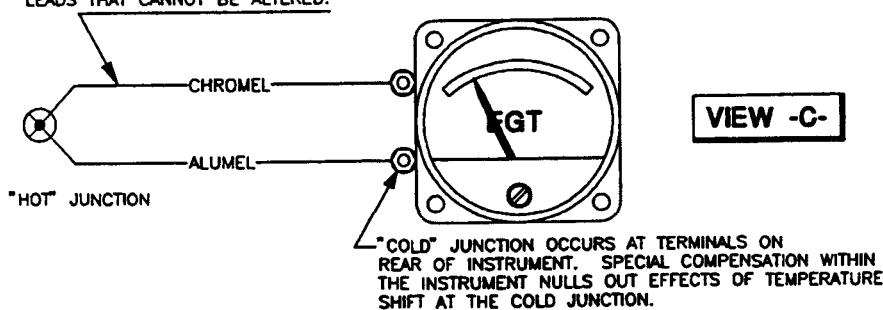
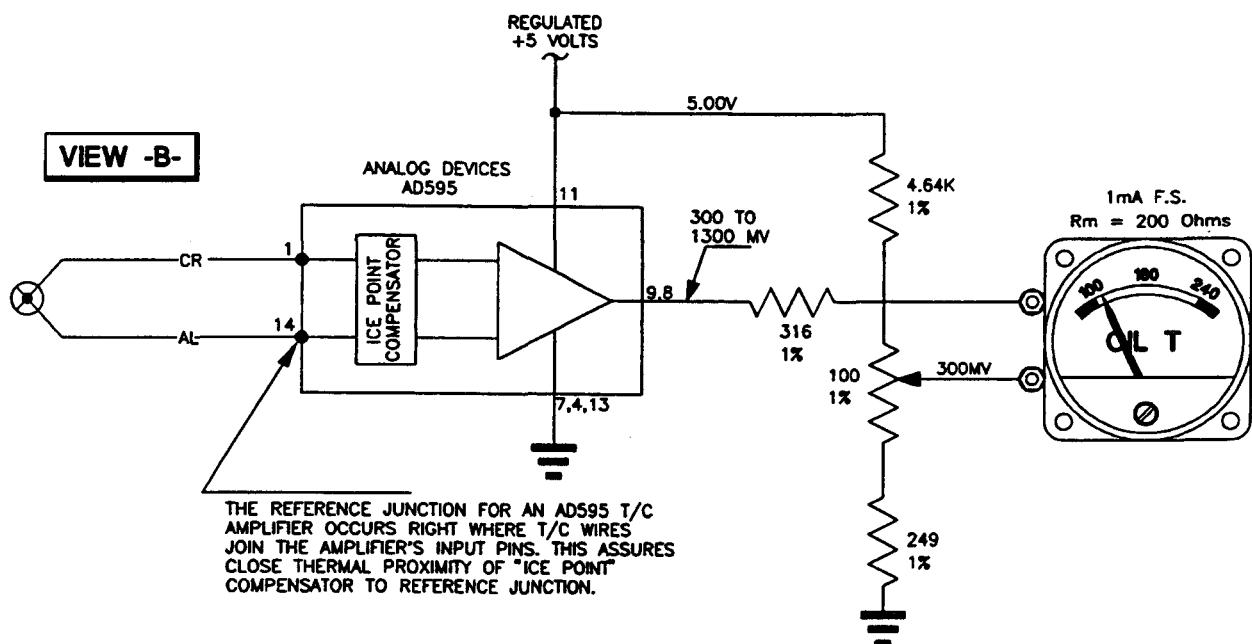
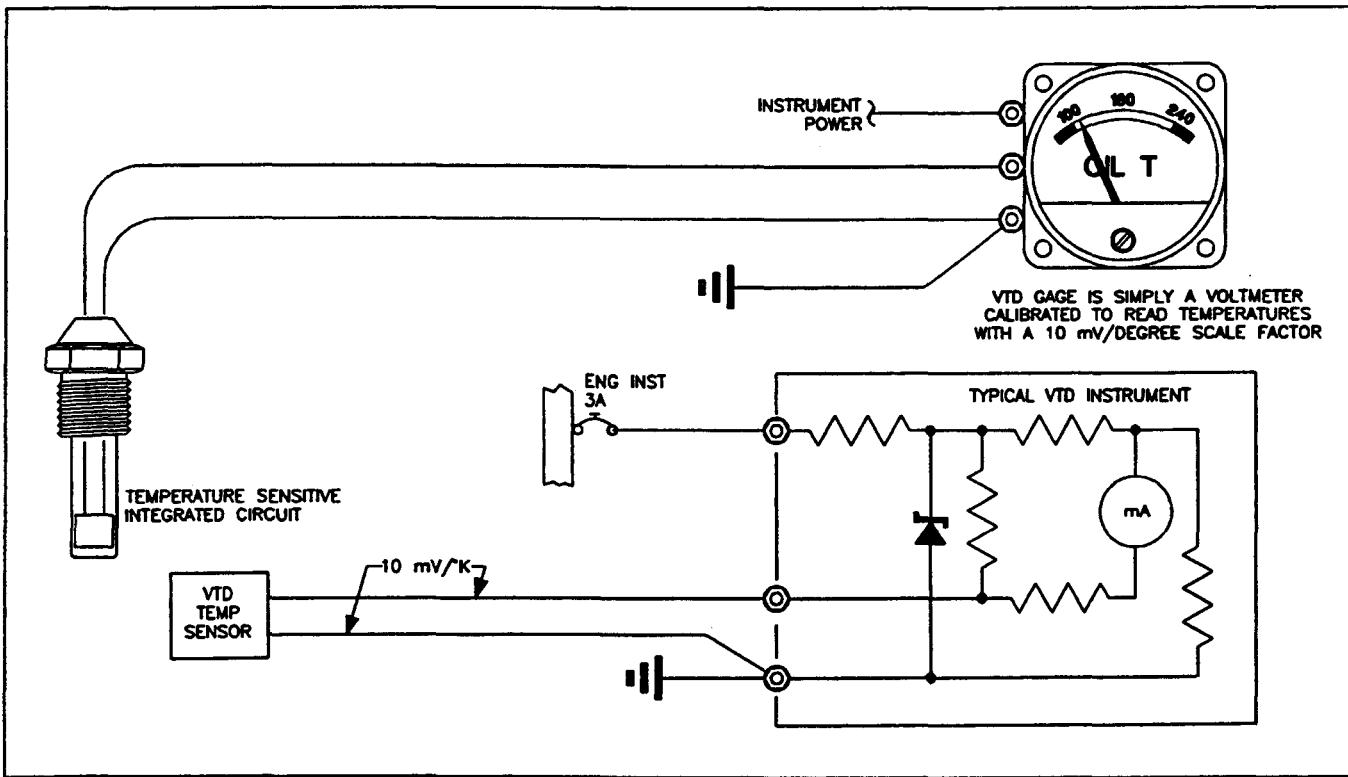

Figure 14-10. Generic T/C Thermometers and Various Reference-Junction Techniques.
Figure 14-12. Amplified Thermocouple Thermometers.
Figure 14-14. Solid State Temperature Sensor.
In Figure 14-10, View -A-, I show two chromel-alumel thermocouples hooked in series with their alumel wires brought together. This means that the "hot" junction generates a voltage opposite in polarity to the "cold" junction. If both couples were at the same temperature, the net voltage at the instrument is zero. Now, let's place the "cold" couple in a known temperature environment, say a bath of crushed ice and water. We know that while any ice exists, the bath is 0°C. Now the voltage measured between the two couples is proportional to temperature difference between the "hot" and "cold" junctions. Further, note that our voltmeter is now connected to two constantan wires. The two parasitic couples at the voltmeter terminals now have equal but opposite effects on the voltage of interest. In other words, irrespective of their voltage, they are opposing polarities and equal to each other - they cancel each other out. Now our instrument need be concerned only the calibrated difference voltage between hot and cold junctions. Further, the hot junction's temperature will be represented by the voltages described in Table 14-2.
While on the topic of high impedance instruments for thermocouples, I'll call your attention to Figure 14-12. In View -A- the hot-junction and reference-junction setup is similar to Figure 14-10, View -A- except: an electronic amplifier inserted between thermocouple wires and indicator. Some interesting things happen when you add an amplifier. (1) the indicator becomes a simple, much less expensive, voltmeter and (2) the current flowing in the thermocouple wires is for all practical purposes, zero. Length of thermocouple wire is no longer critical; insertion of a selector switch to manage many thermocouples is feasible. The last inconvenience to eliminate is the requirement for an ice bath . . .
A company called Analog Devices builds integrated circuits for thermocouple signal conditioning. A sample circuit is shown in Figure 14-12, View -B-. The AD594 integrated circuit is designed to provide amplification, cold junction compensation and linearity compensation for type J thermocouple wire, the AD595 is used with type K wire. The device outputs a voltage of 10 millivolts per °C of thermocouple temperature. These circuits
For example: Let us suppose you want to display oil temperature over the range of 30 to 130 degrees C (86 to 266 degrees F). The output from the AD595 and type K wire will be 300 to 1300 millivolts over that range (10 millivolts per degree C). So, instead of designing a differential voltmeter for 10-16 volts as in Chapter 7, we're going to design for 300 to 1300 millivolts. The values shown in Figure 14-12 are appropriate for a meter having a full scale current of 1 milliampere and internal resistance of 200 ohms. Resistors for other meters can be calculated using techniques described in Chapter 7 (*OR you can simply use a digital panel meter with the decimal point set in the right place to display 10 mV°C as temperature.*)
Several manufacturers build VTDs that look for all the world like a simple, zener diode voltage regulator. However, this "regulator" is very unstable - in fact, it drifts at a rate exactly equal to $10 \text{ mV}/^\circ\text{K}$ or $10 \text{ mV}/^\circ\text{R}$. Hmm . . . we saw that 10 millivolt figure earlier. That's become a sort of industry standard for temperature measurement devices. Everyone builds parts calibrated for measuring C-size degrees, most also make F-size parts too. Figure 14-14 shows a basic thermometer using a calibrated VTD. The indicator is nothing more
than a voltmeter with scale factor of 10mV per degree times total degrees of span and an offset equal to 10mV per degree times the lower end of scale temperature reading. The architectures for expanded scale voltmeters described in Figure 14-12 and Chapter 7 are applicable.
VTDs are calibrated devices as supplied from the factory. They are quite accurate, typically plus or minus 1.0°C or better. Their scale factor of 10 mV/°C is the same as the thermocouple amplifier shown in Figure 14-12, but they are somewhat simpler to use as illustrated in Figure 14-14. Their disadvantage is that their operating temperature ranges do not span as far as thermocouples. They are currently unable to measure exhaust gas temperatures; exhaust gases will remain an exclusive domain of thermocouples. Further, few solid state sensors are rated for temperatures experienced on cylinder heads. However, they do work well at low temperatures (below 0°C); actually better than thermocouples. Therefore, VTDs are well suited for OAT measurement. Their large inherent scale factor of 10°C overpowers parasitic thermocouples which exist in the interconnect wiring so leadwires between instrument and solid state temperature sensors require no special treatment.